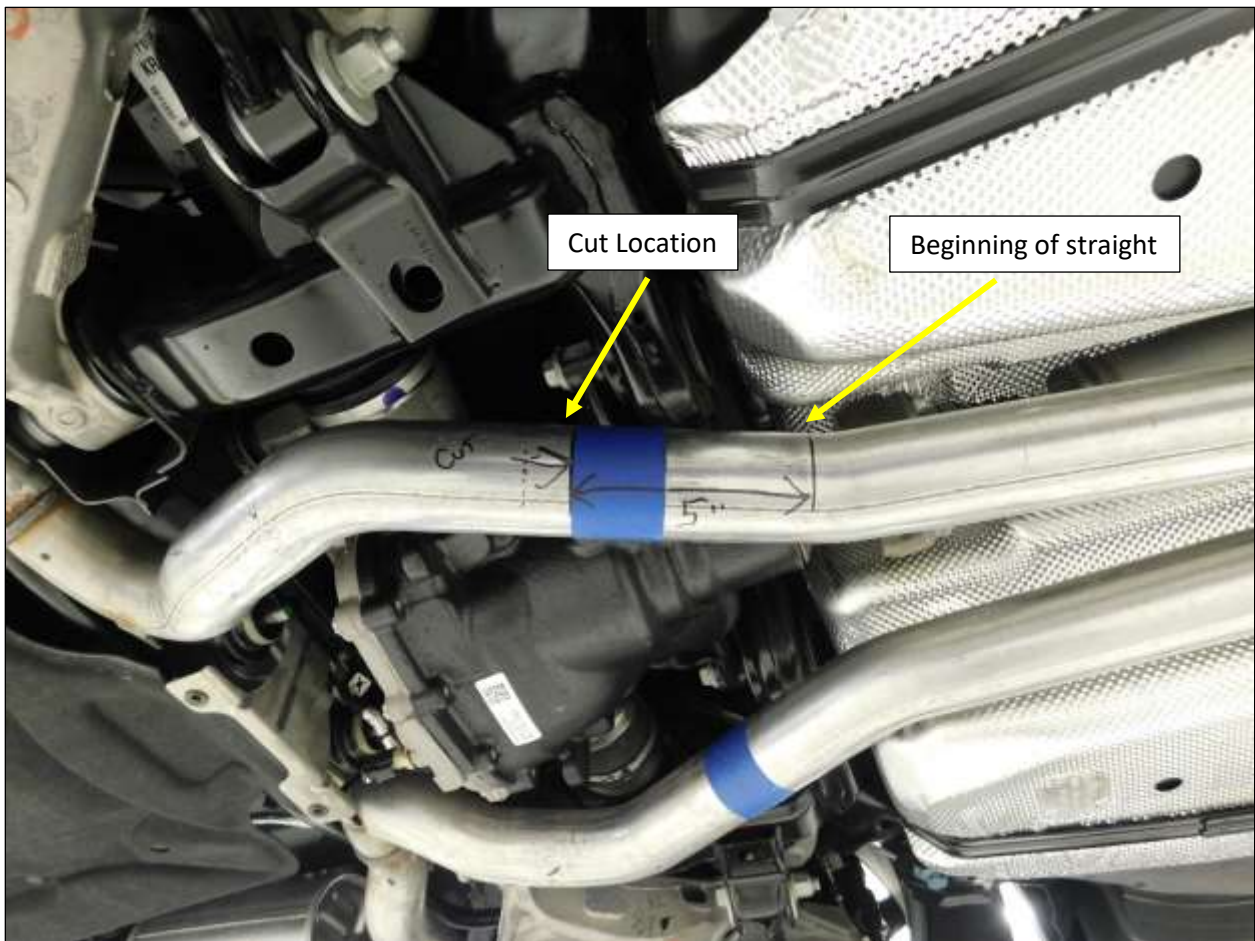

Figure 3
4. Mark the exhaust pipe between the center resonator and the muffler, as shown in **Fig. 3**.
- Use a reciprocating saw or cut off wheel and cut the exhaust at the edge of the tape as shown in **Fig. 3**.